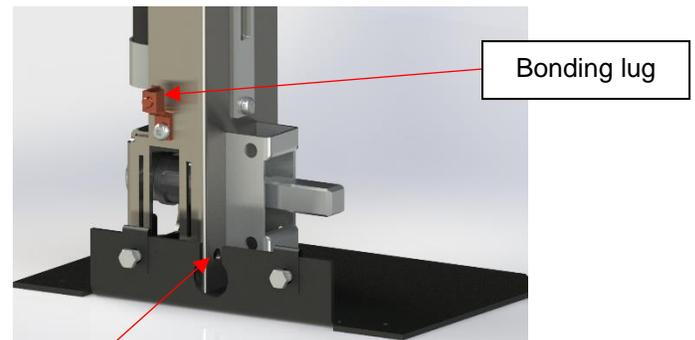

Figure 90
**NOTE:** Position the non-motor jack with the bonding lug (Figure 90) on the same side where the control box will be installed. Refer to the "Wiring Diagram" in the appendix.